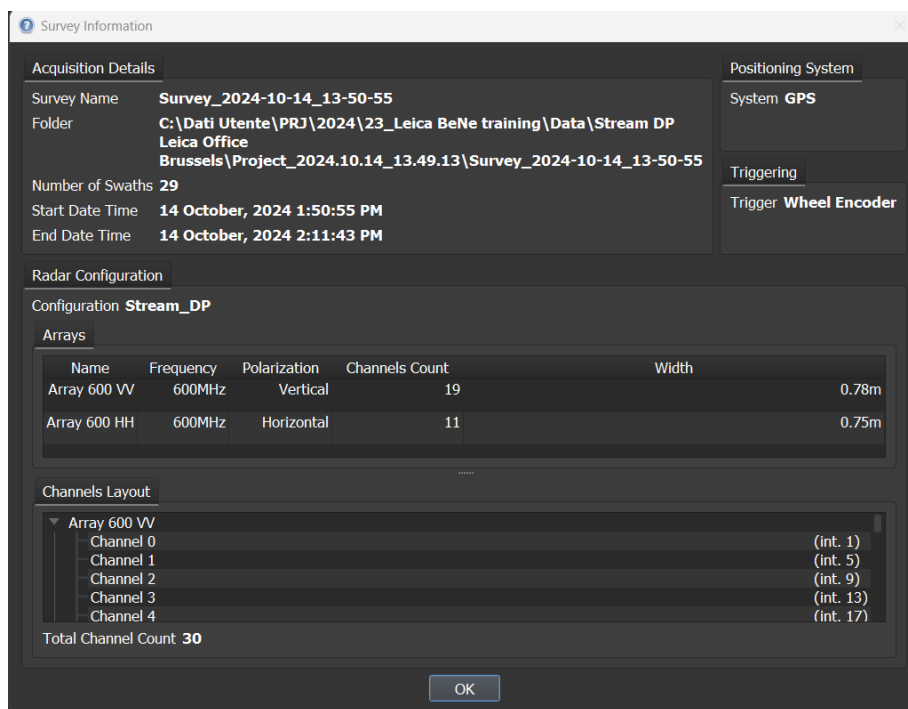

Fig. 41 Survey Information window
3. Press on the  icon to show information on that Survey, as shown on Fig. 41.